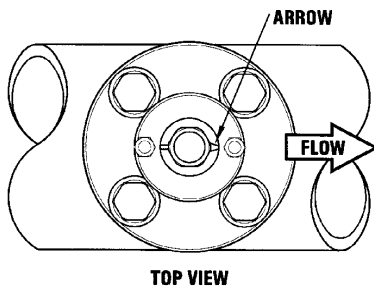

Figure 5
2. Replace the upper Jam Nuts (2 on each rod) and the cotter pins. The nuts should be run down to the top side of the retaining collar and the cotter pins replaced. Orient the probe in the direction of flow as indicated on by the FLOW direction arrow located on the top of the probe flange. See **Figure 5**. Lock the probe in position with the enclosed allen wrench.